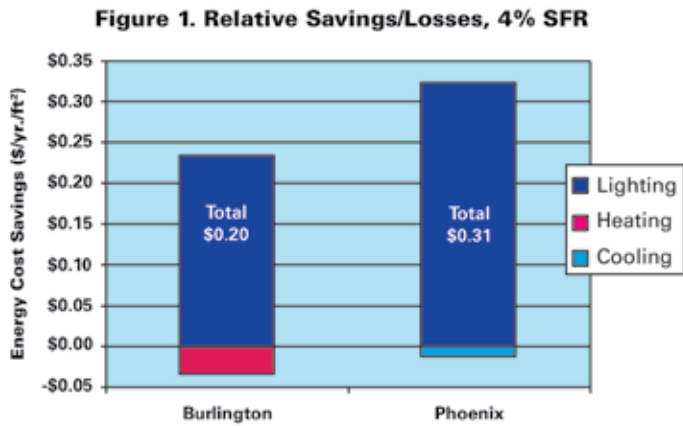

Figure 1
The key performance attributes of a skylight for daylighting are good diffusing properties (to aid in light distribution and avoid glare) and high visible transmittance (VT). Of special note in this report, as stated by the DOE, "Other desirable properties that are much less important for daylighting applications are a low solar-heat-gain coefficient (SHGC in U.S., G-Value in European standards) and low conductance (U-value)." The DOE report illustrates the rationale for this prioritization in a graph, re-created here as *Figure 1*.